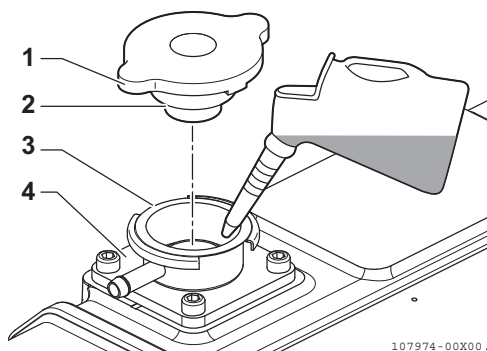

Figure 11
3. Pour coolant slowly into coolant tank (**Figure 11, (4)**) to avoid air bubbles. Fill until coolant overflows from the filler port.
4. Align filler cap tabs (**Figure 11, (1)**) with filler port notches (**Figure 11, (3)**) and tighten filler cap (**Figure 11, (2)**) firmly.